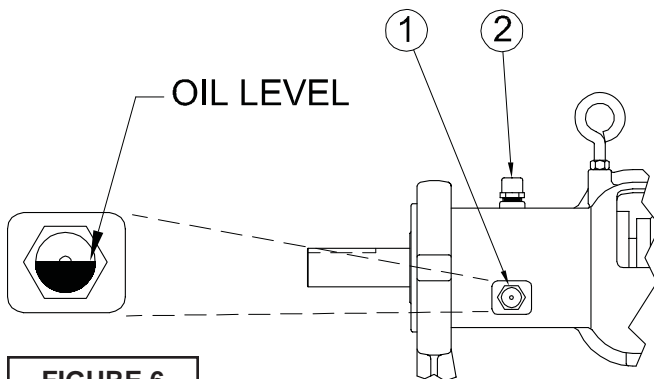

FIGURE 6
Bullseye Glass (See Figure 6)- Observe pump shaft bearing oil level through ©bullseye^a glass plug (item 1) located on the right hand side of the bearing pedestal (when looking from the motor side). The oil level should be up to the center of the bullseye. It should be noted that in order for both bearings to be lubricated properly, the pump must be mounted level. If the oil level is low, remove vent plug (item 2) and add SAE 30 non-detergent oil. Replace vent plug (item 2) when finished refilling.